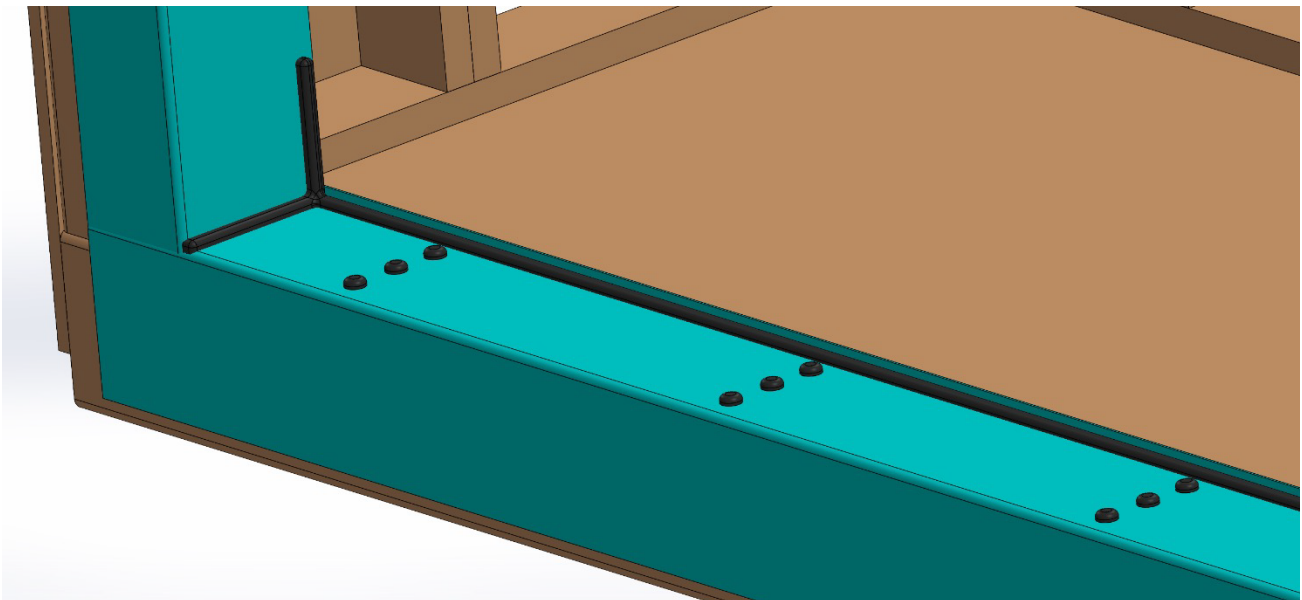

Figure 10
17. Set the sill assembly onto the bed of sealant and align the sill with marks on the floor. Shim the sill assembly as required and secure the frame with adequate anchor screws for your application. Once the sill is anchored to the floor, verify that it is 100% flat and level in all directions. After verification, tool silicone over the heads of all anchor screws and smooth until flush. Fill the space between each track with flooring/finish materials to conceal the anchor screws and create a flat surface for the panels to seal against. (See Figure 10).